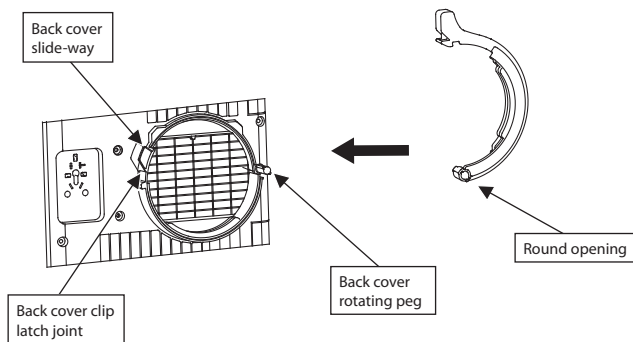

Fig. 1
2. Direct the round opening at the end of the hot air exhaust tube to the rotating peg of the back cover and place it on the back cover, while respecting the direction of the latch joints of the rotating peg on the back cover (see fig. 1).